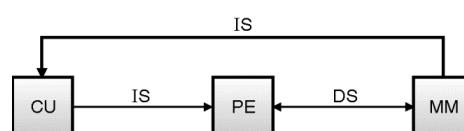

Fig. 10.11.1 : SISD computer
- Fig. 10.11.1 shows this type of system. You will notice there is a Control Unit (CU) that accepts the instruction from the processor and decodes it.
- The Processing Element (PE) accesses the data from the memory and performs the operation on this data as per the signal given by control unit.
- The Memory Module (MM) is connected to the PE and the CU for the data and the instruction streams respectively.